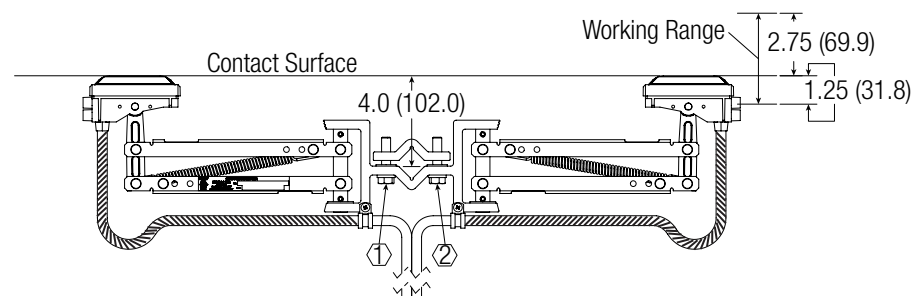

Figure: 17-2
17.1 XA-SL2-100T-1M Tandem Collector - Figure 17-2